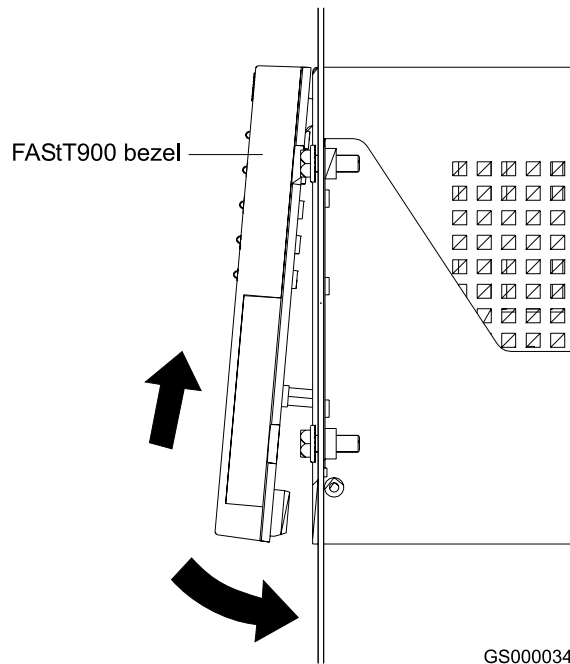

Figure 22. Replacing the FAST900 Storage Server bezel
2. To replace the bezel, slip the top edge of the bezel under the lip on the chassis, then push the bottom of the bezel until the pins snap into the mounting holes, as shown in Figure 22 on page 17.